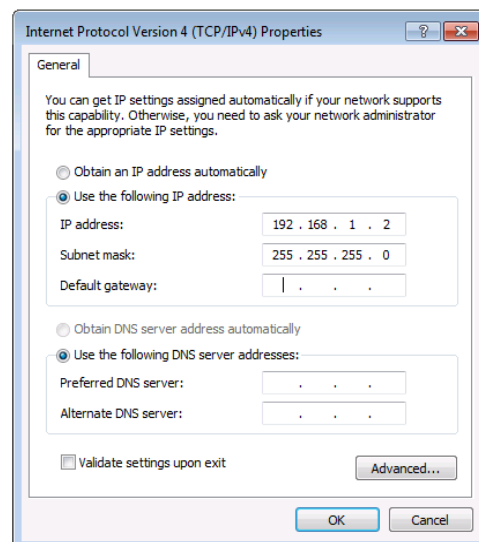

Figure 7: Internet Protocol Properties Window
6. Select **Use the following IP Address** for static IP addressing and fill in the details as shown in Figure 7.